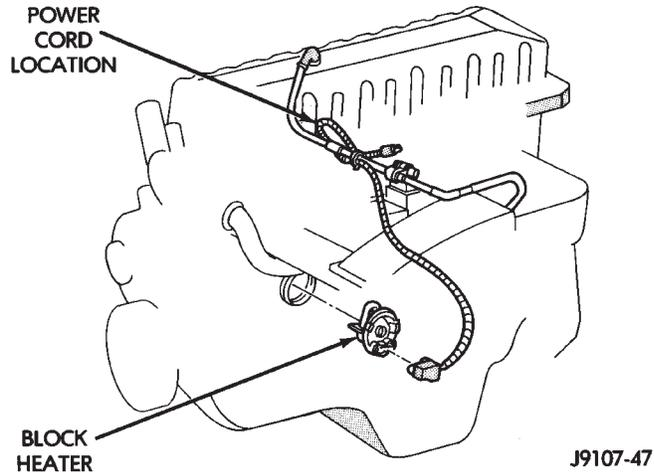
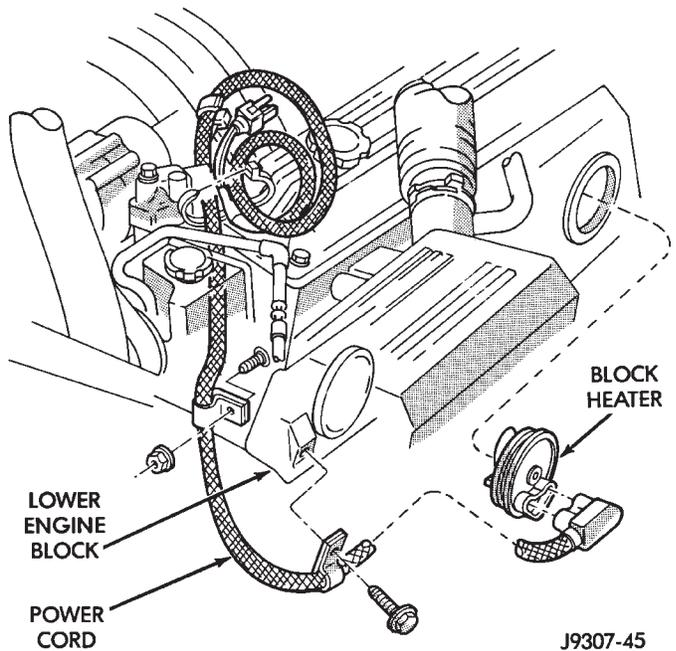

Fig. 61 Block Heater—4.0L Engine
Fig. 62 Block Heater—5.2/5.9L Engines
(5) Remove power cord from block heater (Fig. 61) (Fig. 62).
(6) Loosen screw at center of block heater. Remove heater assembly.